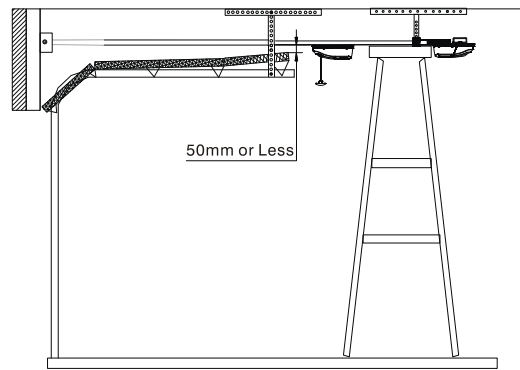

Fig. 7
- b. Mounting the Drive Rail more than 50mm above the Highest Arcing Point of the garage door may cause the Drive Rail to flex excessively. Always ensure that the bottom edge of the Drive Rail is located within 50mm of the top edge of the top panel of the garage door. (Fig.7)
- Raise the Drive Rail assembly off the floor and rest it on a support high enough that the Drive Rail runs parallel to the ground. (Fig.7 depicts typical sectional type garage door installation)
- Slide the Drive Rail Hanger along the drive rail (up to max 600mm from the Control Box) in order to align it with a structural member of the garage. Securely fasten the Drive Rail Hanger to the structural member of the garage using 2 lengths of appropriate hanging material. (Fig.7)
- a. **With the garage door in the fully open position the underside of the Drive Rail should be no more than 50mm above the highest arcing point for its entire length. Mounting the Drive Rail more than 50mm above the Highest Arcing Point of the garage door may cause the Drive Rail to flex excessively. (Fig. 7)**